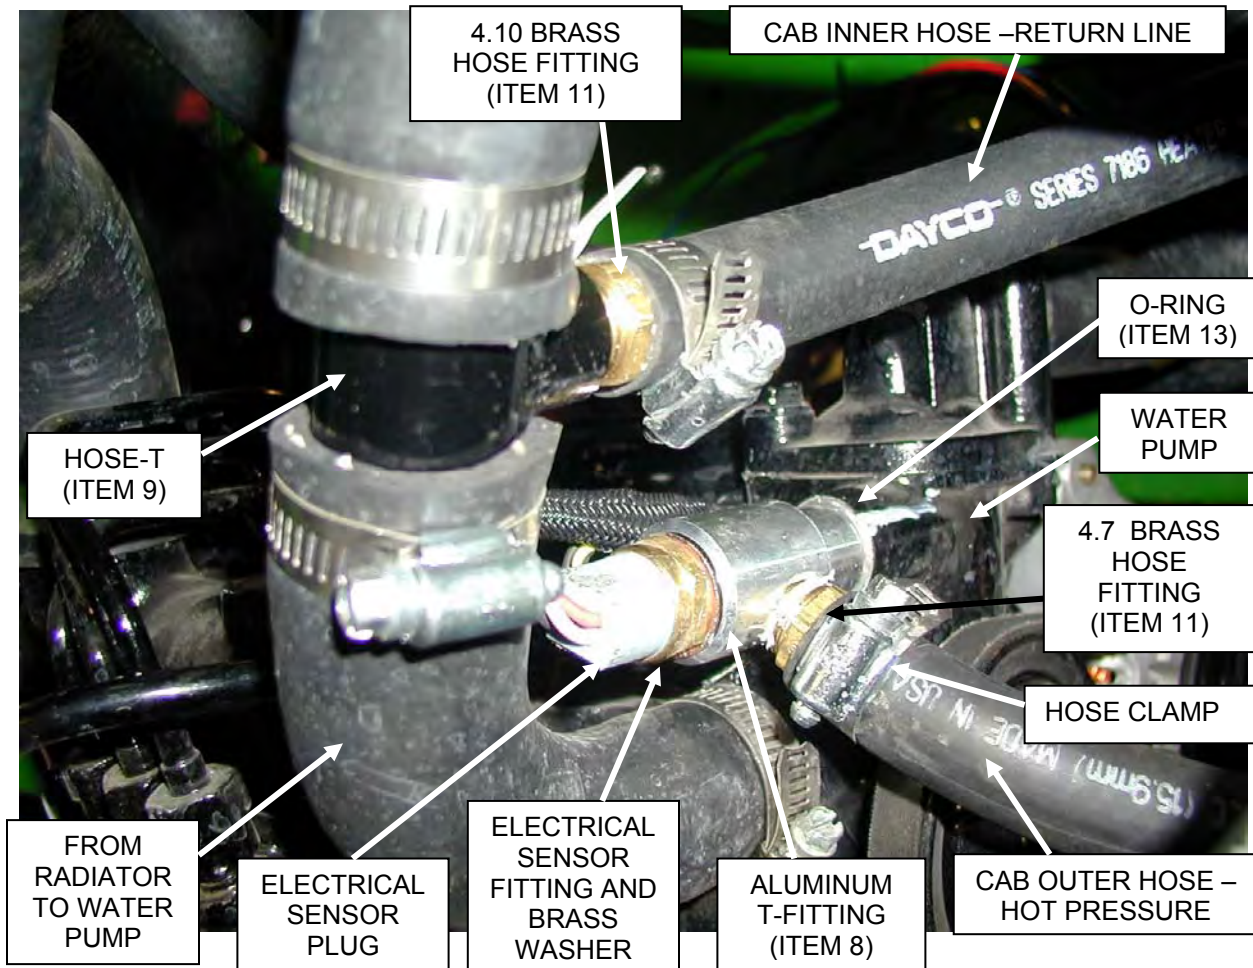
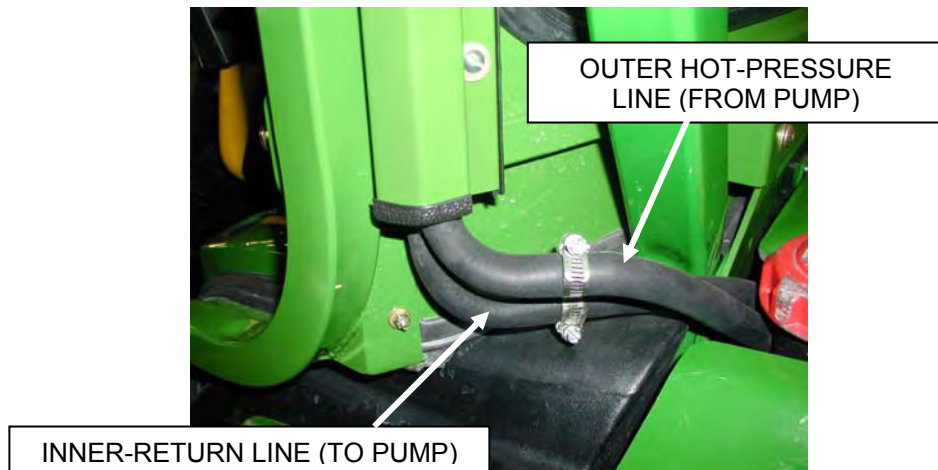

Figure 4-1
Figure 4-2
- 4.7) The cab is shipped with two 5/8" heater hoses, hooked up from the factory. The outer line will be the hot-pressure line (See figure 4-2). Route hose and install onto the brass fitting (Item 11), securing it with a 5/8" hose clamp (Item 12). (See figure 4-1).